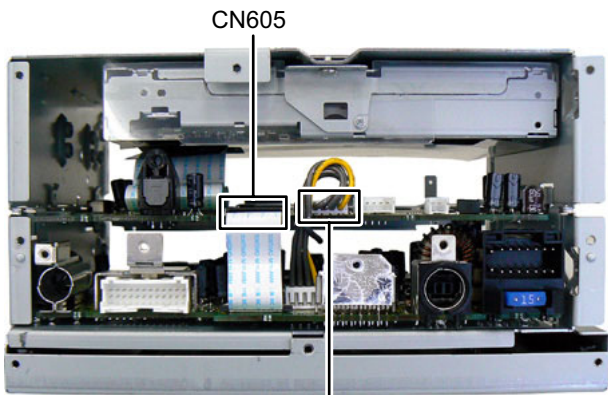

Fig.11
- (2) Disconnect the card wire from Main board connected to connector CN605 of the Sub board. (See Fig.11)
- (3) Disconnect the connector wire from Main board connected to connector CN607 of the Sub board. (See Fig.11)